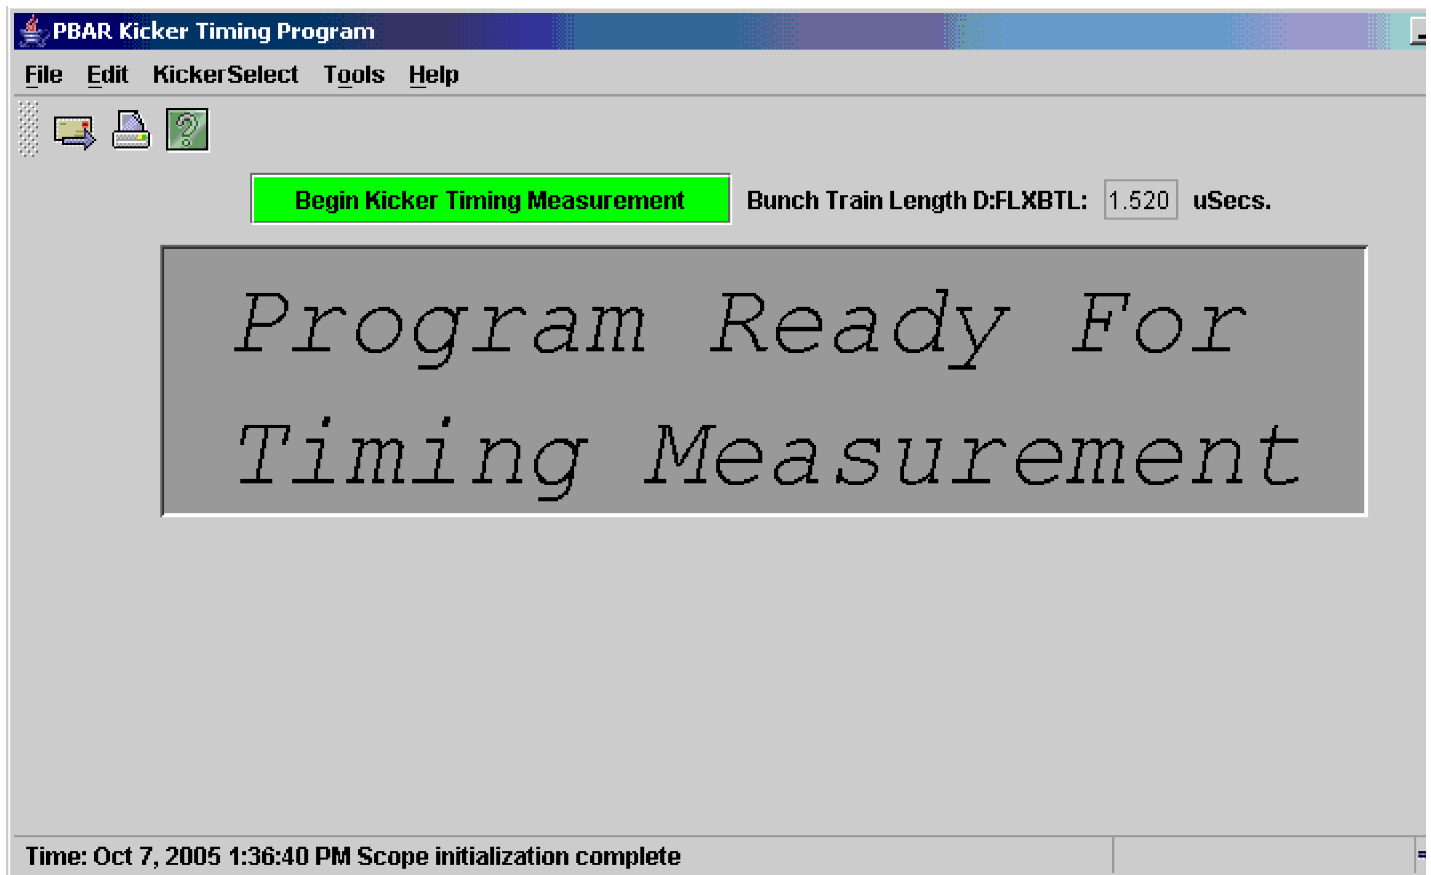

Figure 10: Java kicker scope trace
1. The Pbar Kicker Timing Java application (See Figure 10) can be started by clicking on the following link: <http://www-bd.fnal.gov/appix/start?p=40000142&n=35000508>. The application can also be started from the Java Index. Click on "Launch in Application Browser." The Application Index window appears. Open the P \* Pbar folder and double click on "Pbar Kicker Timing."